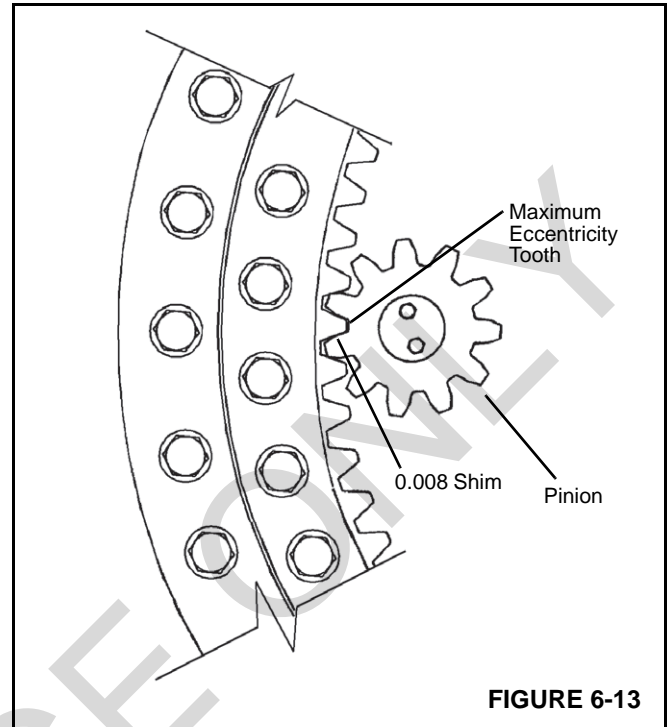

FIGURE 6-13
- Install the swing drive pinion so that the high point (maximum eccentricity) is aligned with the turret bearing high point. Check the backlash with a (0.008 in) 0.203 mm thick shim (pg 6-11 Figure 6-13). If the pinion must be moved to achieve proper backlash, contact your local distributor.